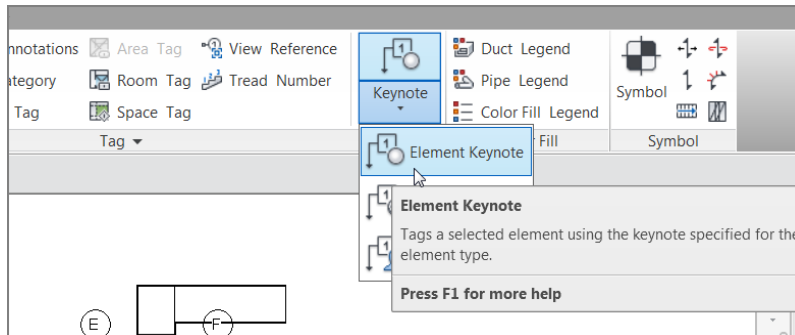

FIGURE 11.84: Select Keynote > Element Keynote.
3. On the Tag panel of the Annotate tab, select Keynote > Element Keynote, as shown in Figure 11.84.